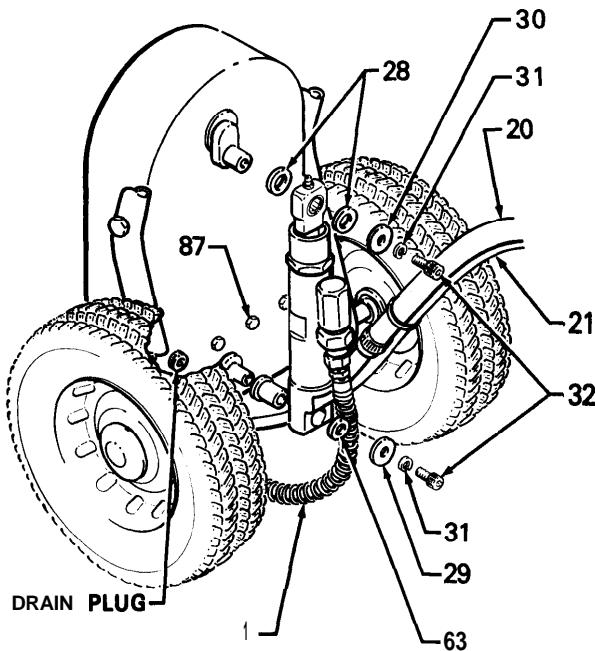

Fig 6
Disconnect the suction (20) and fluid line (1) hoses and open the pump shield (16). See Fig 6 and Parts Drawing. Remove the socket head screws (32), lockwashers (31), and flat washer (29) and spacer (63) from the pivot shaft, and the flat washer (30) and thrust washer (28) from the crank. Be very careful to hold the pump as you slide it off the shafts to avoid damaging the needle bearings. See Fig 6.
Secure the cover to the gearcase with the capscrews (80), then put the pressure control in place and secure with the three capscrews (78). Connect the conduit and wires to the motor. Tip the sprayer back to its normal position and install the capscrews (87) and tighten. Connect the displacement pump and all the hoses. Refer to Fig 6.